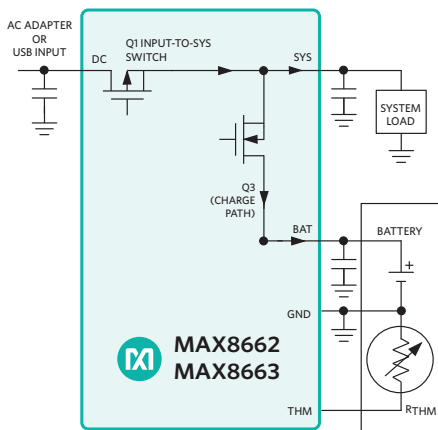

Figure 8. Power Path When $I_{LOAD} < I_{DC}$
- b) When the system load requirements are less than the capacity of the external power input (Figure 8), the battery is charged with residual power from the input.